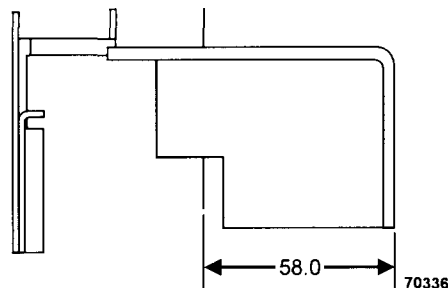

Figure 3. Removing Arm Rest
3. If the inside seal is kept in place, the alternative is more difficult. The door should be disassembled and the armrest portion of the door structure carefully removed by removing the welds with a grinding wheel. The armrest should then be rewelded at the dimension shown in (Figure 3). After cleaning, priming, and painting; reassemble the door. **NOTE: A GOOD SHEET METAL WORKER WITH THE PROPER TOOLS SHOULD BE ABLE TO REMOVE THE ARMREST, CLEAN IT UP, AND REATTACH IT WITHIN 30 MINUTES OR LESS PER DOOR ONCE DOOR HAS BEEN DISSASSEMBLED TO BE ABLE TO WORK WITHOUT CAUSING UNNECESSARY DAMAGE TO OTHER PORTIONS OF THE DOOR.**